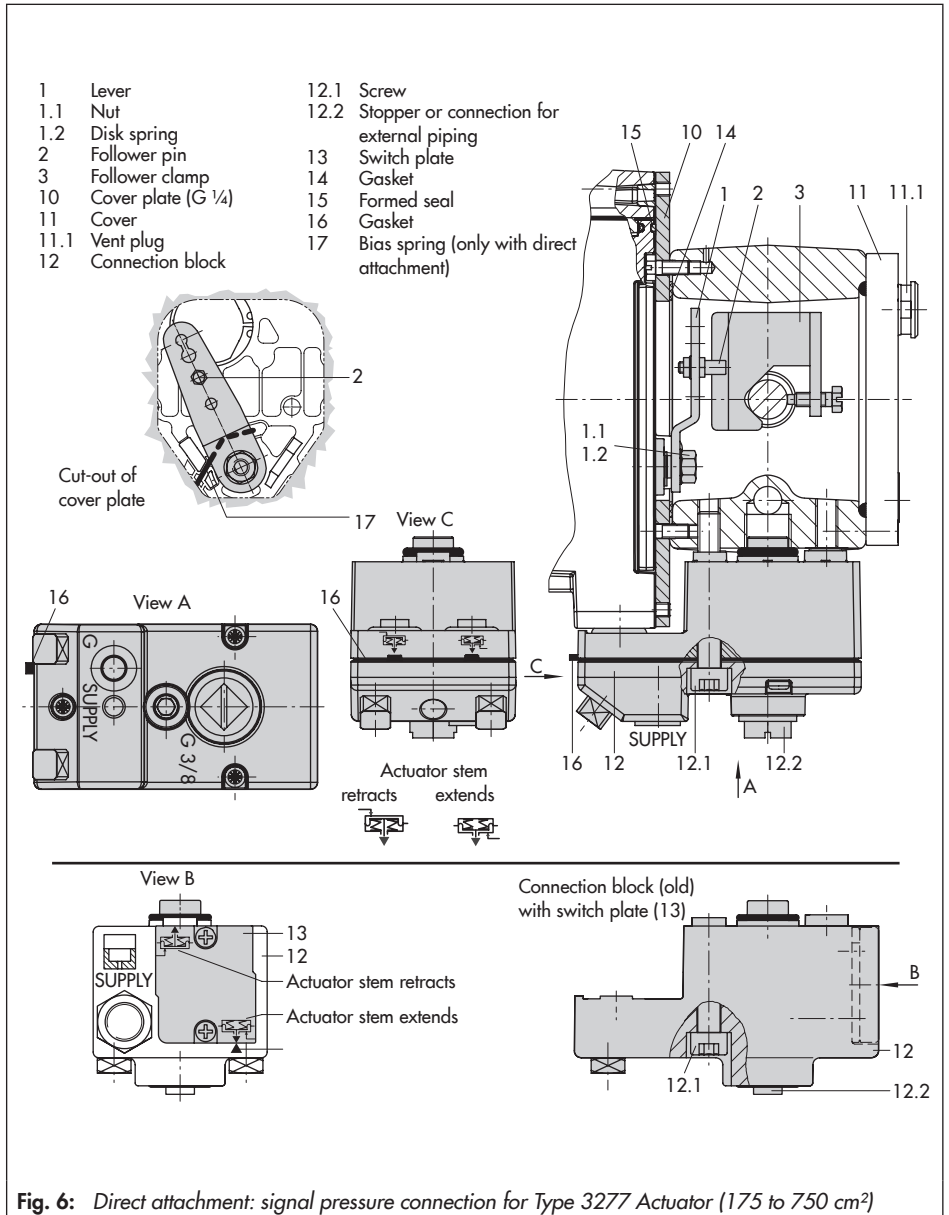

Fig. 6: Direct attachment: signal pressure connection for Type 3277 Actuator (175 to 750 cm²)
Mount the positioner on the yoke as shown in Fig. 6. The signal pressure is routed to the actuator over the connection block (12), for actuators with fail-safe action "actuator stem extends" internally through a hole in the valve yoke and for "actuator stem retracts" through an external pipe.
1. Place follower clamp (3) on the actuator stem, align it and screw tight so that the mounting screw is located in the groove of the actuator stem.
2. Mount cover plate (10) with narrow side of the cut-out (Fig. 6, on the left) pointing towards the signal pressure connection. Make sure that the gasket (14) points towards the actuator yoke.
3. **Actuators (355, 700 and 750 cm²):** Remove the follower pin (2) from the pin position 35 on M lever (1), reposition it
4. Insert the formed seal (15) into the groove of the positioner enclosure, pressing the four retaining rings over the enclosure screws and both fittings into the enclosure recesses.
5. Thread the bias spring (17) through the crosspiece underneath the lever (1) and push it into the hole in the enclosure. Push the lever (1) until it engages into place. Place the positioner on the cover plate (10) and fasten it using the three fastening screws. Check whether the follower pin (2) rests on top of the follower clamp (3). The lever (1) must rest on the follower clamp with spring force.
6. Make sure that the tip of the gasket (16) projecting from the side of the connection block is positioned to match the actuator symbol for the actuator's fail-safe action "actuator stem extends" or "actuator stem retracts". If this is not the case, unscrew the three fastening screws and lift off the cover. Turn the gasket (16) by 180° and re-insert it. The old connection block version (Fig. 6, bottom) requires the switch plate (13) to be turned to align the actuator symbol with the arrow marking.